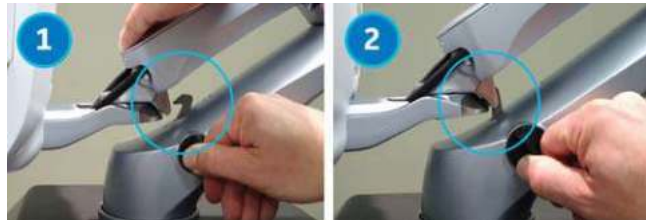

Figure 3-36. Unlock/Lock the monitor arm
1. Turn the release knob clockwise to unlock the monitor. The monitor can be moved freely in all directions (Figure 3-36 1).
2. Turn the release knob clockwise to raise the lock and move the monitor into the parked position, then turn the lock counterclockwise to lock. (Figure 3-36 2).